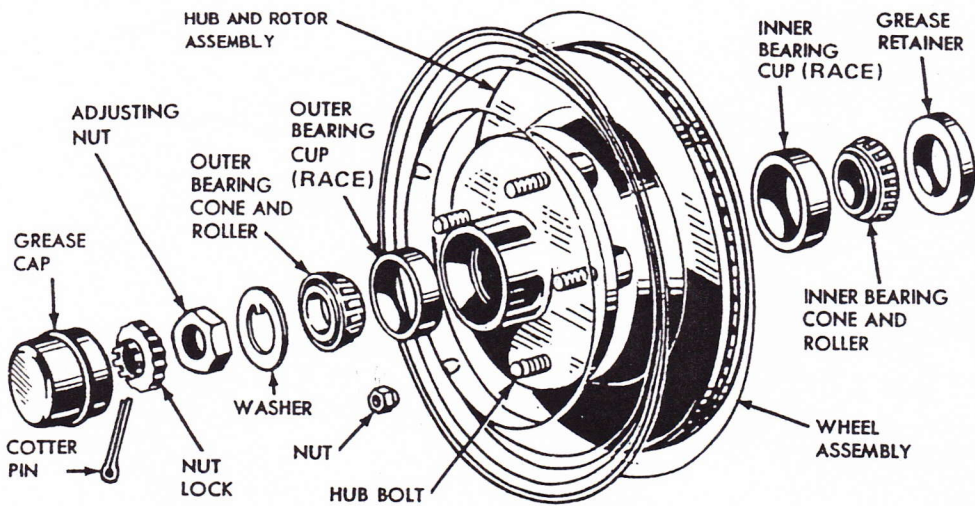

FIGURE 4-1. Assembly of a Wheel. (Courtesy of Ford Motor Company)
Figure 4-1 shows the assembly of a wheel. The front wheel of a vehicle is bolted to a hub and brake drum or rotor assembly. Two opposed tapered roller bearings and raceways made of case-hardened steel are fitted inside the hub and allow the wheel assembly to revolve with a minimum of friction. The grease retainer, recessed in the hub, prevents contamination of the bearings and keeps the lubricating grease away from the brake mechanism. The outer part of the hub is protected from contamination and loss of lubricant by a grease retainer cap.
4. Remove the grease retainer cap from the hub; use the special pliers if they are available. Remove the cotter pin, nut lock, wheel bearing adjusting nut, and flat washer from the spindle. (See Figure 4-1.) Move the brake drum or rotor toward you approximately 7 millimeters (1/4 inch). Push the brake drum or rotor in toward the steering knuckle to free the outer bearing from the hub. Remove the outer bearing. Place the parts in the hubcap.